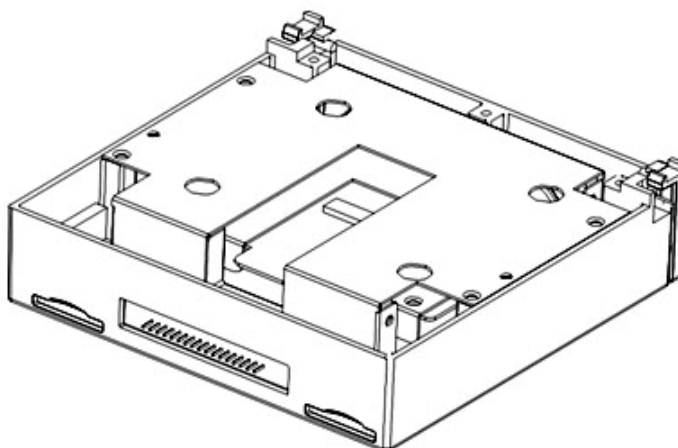

Figure 2-19
5) Install the bracket back to the HDD box and then secure the four bolts. See Figure 2-19.